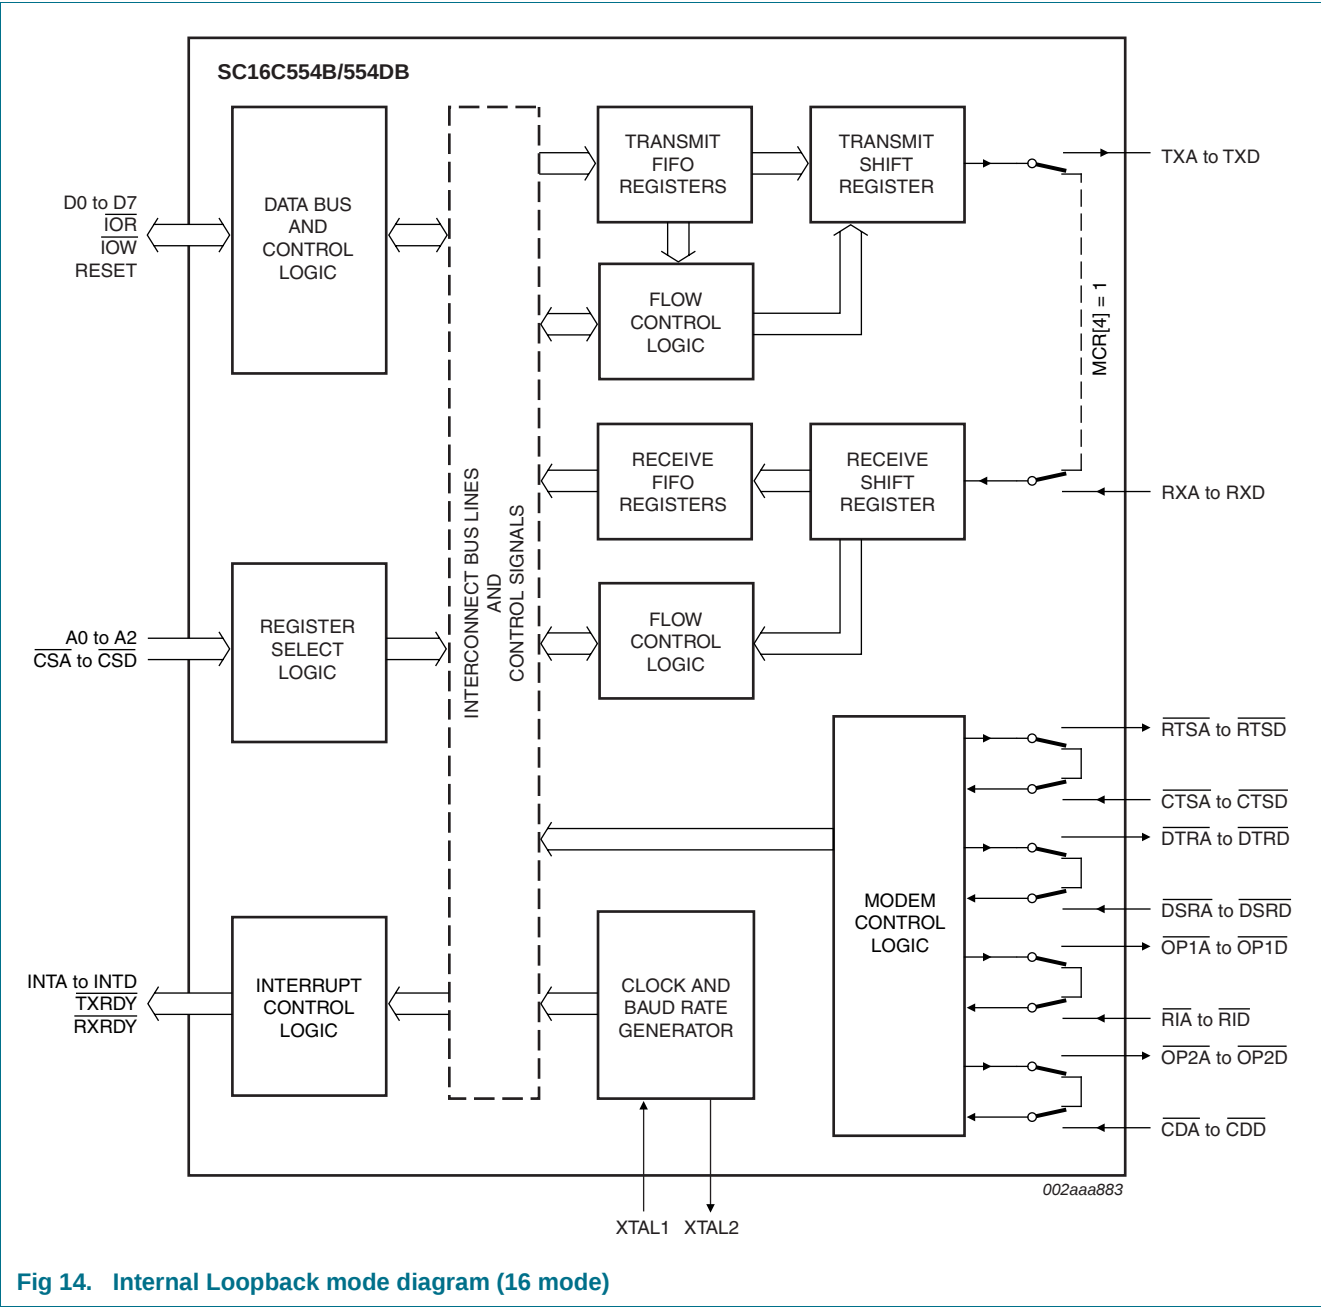

Fig 14. Internal Loopback mode diagram (16 mode)
The internal loopback capability allows on-board diagnostics. In the Loopback mode, the normal modem interface pins are disconnected and reconfigured for loopback internally. MCR[3:0] register bits are used for controlling loopback diagnostic testing. In the Loopback mode, OP2 and OP1 in the MCR register (bits 3:2) control the modem RI and CD inputs, respectively. MCR signals RTS and DTR (bits 1:0) are used to control the modem CTS and DSR inputs, respectively. The transmitter output (TX) and the receiver input (RX) are disconnected from their associated interface pins, and instead are connected together internally (see Figure 14). The CTS, DSR, CD, and RI are disconnected from their normal modem control input pins, and instead are connected internally to RTS, DTR, OP2 and OP1. Loopback test data is entered into the Transmit Holding Register via the user data bus interface, D0 to D7. The transmit UART serializes the data and passes the serial data to the receive UART via the internal loopback connection. The receive UART converts the serial data back into parallel data that is then made available at the user data interface D0 to D7. The user optionally compares the received data to the initial transmitted data for verifying error-free operation of the UART TX/RX circuits.